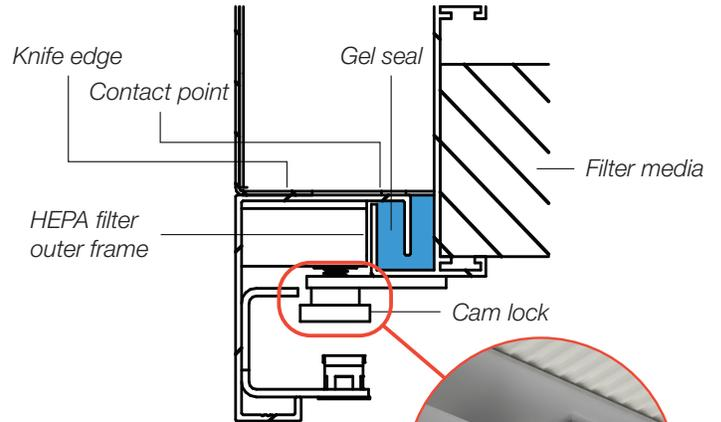
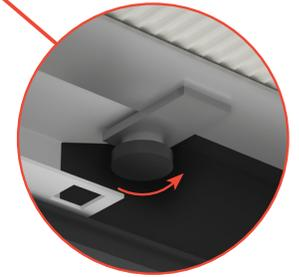

Figure 5: Filter gel seal engagement cross section
Figure 6: Cam locks
3. Ensure knife edge of plenum is seated into gel channel, secure filter in place with cam locks (Figure 6) and tighten. HEPA/ULPA filter outer frame must be in contact with the horizontal component of the knife edge to be seated correctly (Figure 5).